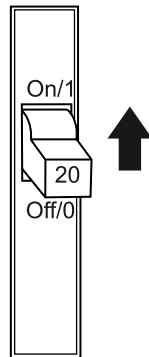

Figure 73. GFCI Circuit Breaker
2. Place a GFCI circuit breaker (Figure 73) in the **ON** position.